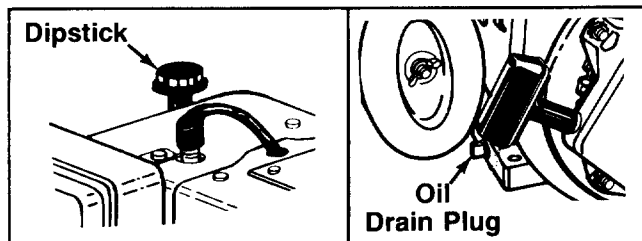

FIGURE 7.
- Fill engine with oil as follows. Remove oil fill dipstick. See figure 7. With chipper-shredder level, use a funnel to fill engine with oil to FULL mark on dipstick. Capacity is approximately 1½ pints. Be careful not to overfill. Tilt chipper-shredder toward the left (from behind the hopper), then re-level. Check oil level. Refill to FULL mark on dipstick if necessary. Replace dipstick and tighten.
Check engine oil level regularly—approximately every five hours of operation and before each usage. Stop engine and wait several minutes before checking oil level. With engine level, the oil must be to FULL mark on dipstick (refer to figure 7). Change engine oil after the first two hours of operation, and every twenty-five hours thereafter.
Remove oil drain plug. Refer to figure 7. Tip the chipper-shredder, and catch oil in a suitable container.